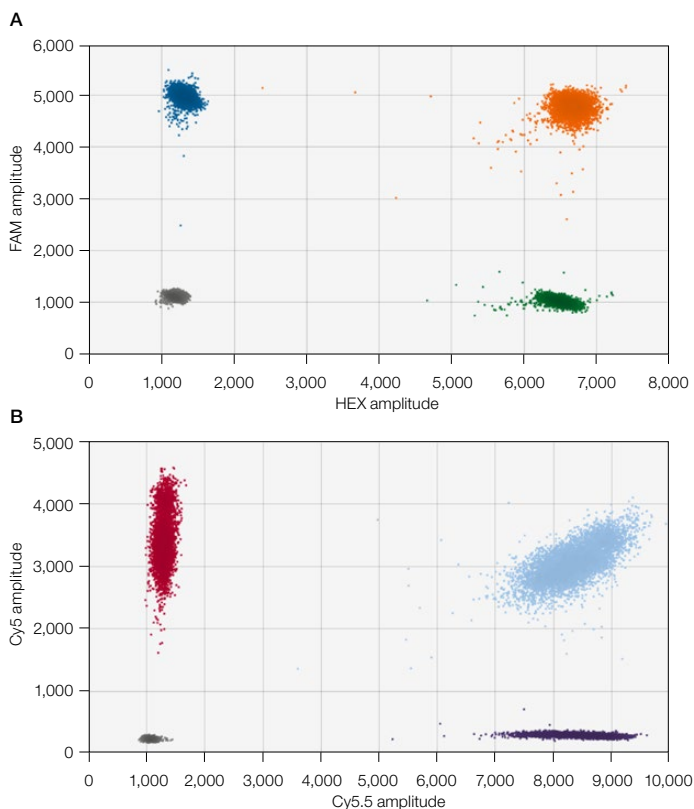

Fig. 2. Two-dimensional scatter plots from a QX ONE ddPCR System.
- See Figure 2 for the QX ONE ddPCR System